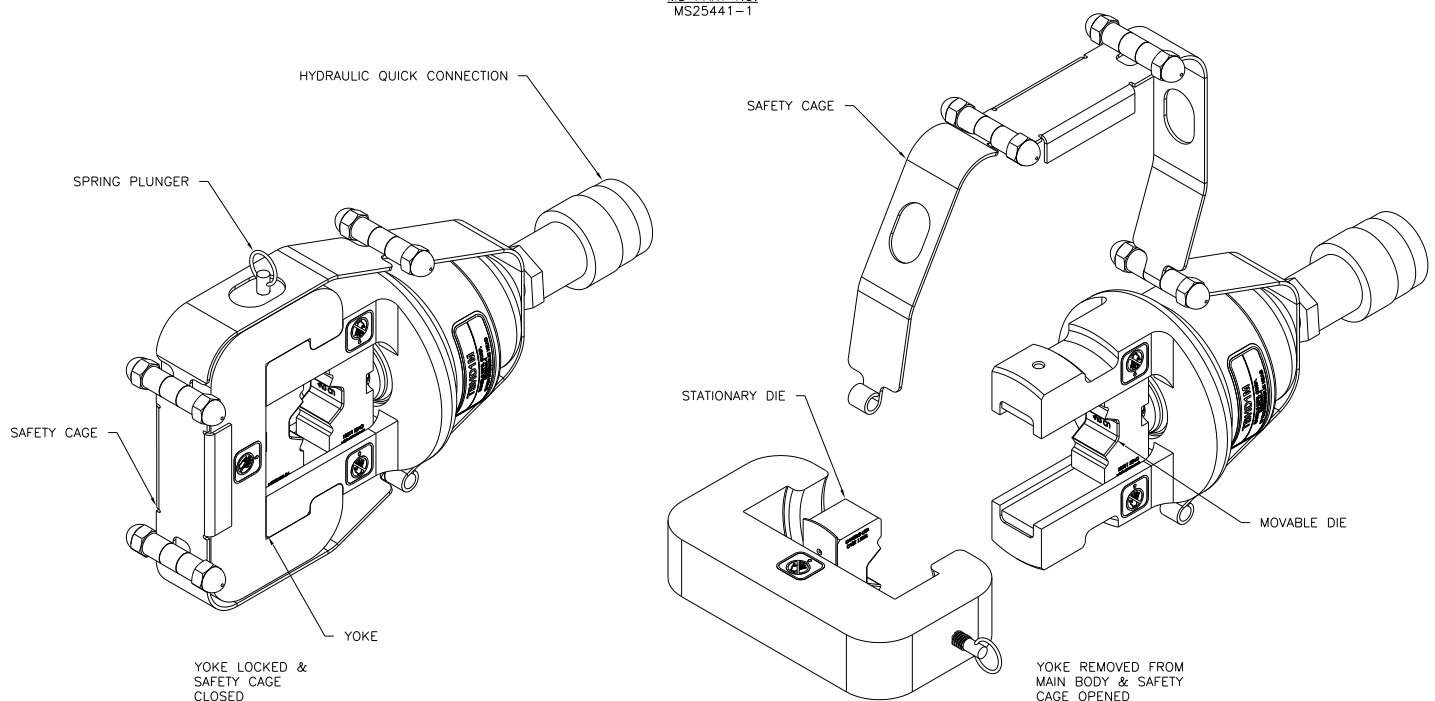

Figure 1
2. Unfold the safety cage via the built in hinge points (See Figure 1).
3. Pull the spring plunger out and rotate the yoke, as shown in Figure 1, to remove it from the main body.
5. Place the stationary die half into the yoke, as shown in Figure 1, and snap the die into the mating snap of the yoke.
6. With the yoke & die orientated as shown in Figure 1, place the stationary die between the die rails of the main body. The flat spring mounted on the stationary die will sit in the recessed pockets of the main body.
7. Pull the spring plunger up, so that it is out of the way, and rotate the yoke back into the locked position as shown in Figure 1.